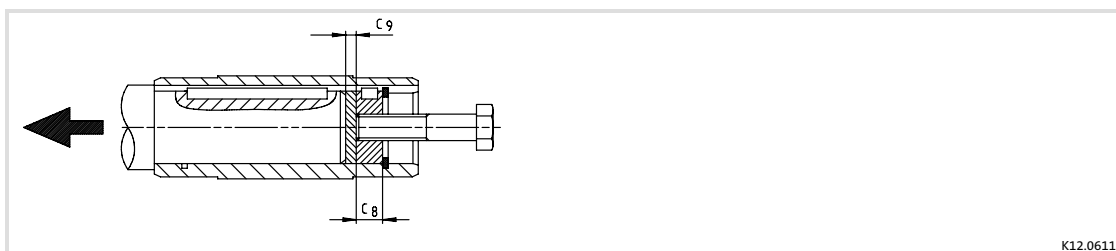

Fig. 6 Dismantling of gearboxes with hollow shaft using the auxiliary tool, not for GKR
2. Remove/extract the gearbox from the motor shaft using an appropriate auxiliary tool (Fig. 6).